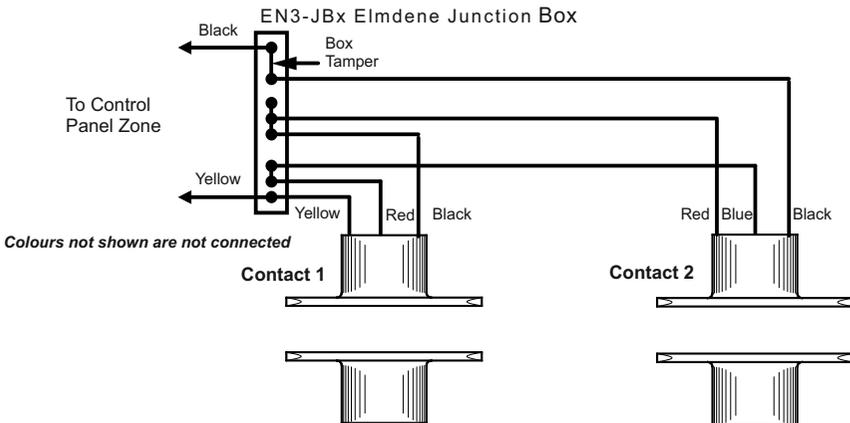

Figure 5
- Fully supervised loop - Single leaf door - Parallel mode connection - Figure 5